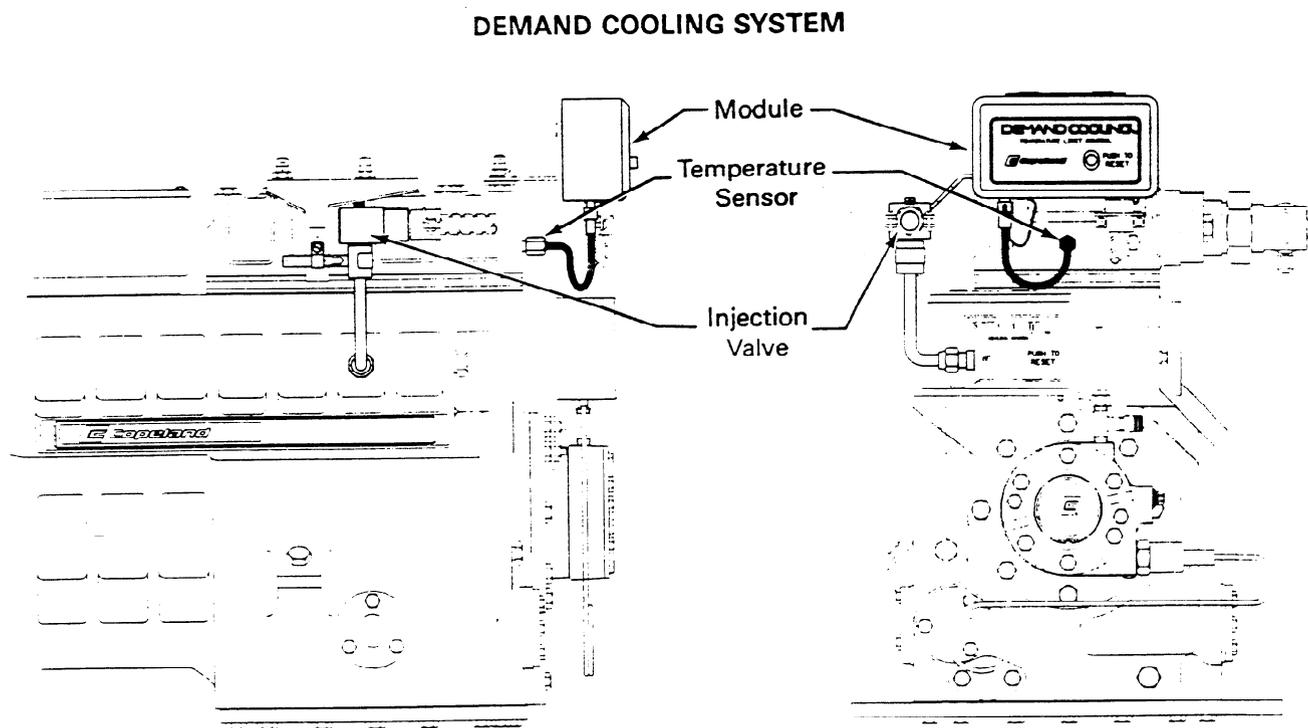

Figure 1
The Copeland Demand Cooling System (see Figure 1) uses modern electronics to provide a reliable cost effective solution to this problem. It is required for all single stage HCFC-22 applications with saturated suction temperatures below -10°F .
The Demand Cooling System (see Figure 1) consists of: The Demand Cooling Temperature Sensor (TS), The Demand Cooling Module (CM), and the Injection Valve (IV).